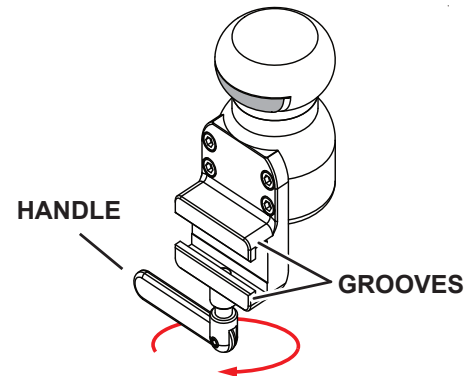

Figure 14. Hand Console Components
1. Turn the handle (Figure 14) to loosen the connecting bolt. This will allow the console to slide on or off a table rail.